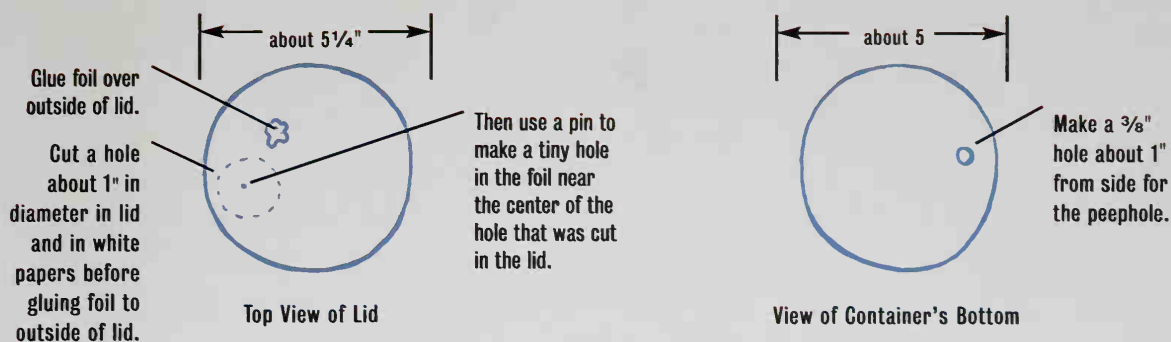

Fig. 2
3. As indicated in Fig. 2 and Fig. 3, cut a 1" hole in the lid and through the white papers.
4. Glue a piece of aluminum foil over the outside of the lid and use a pin to make a tiny hole in the foil as shown in Fig. 2.